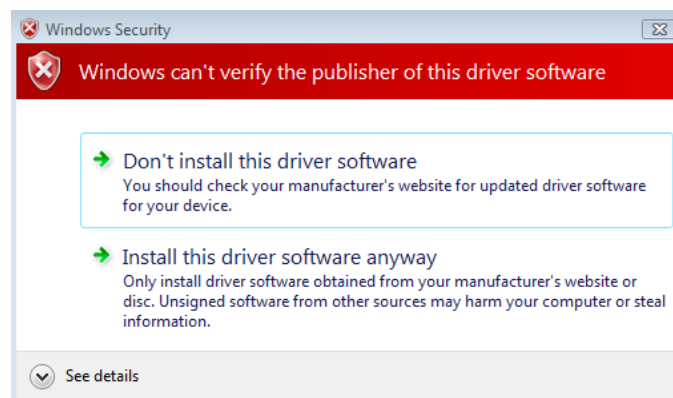

Figure 25 - Windows Security window
6. Click on “Install Wireless Module Driver” button if KMS-300 USB WIRELESS ADAPTER will be used. Follow the on-screen instructions to install the driver. The Windows Security window, Figure 25, may open depending on the security settings the user has applied to Windows®. Click on “Install this driver software anyway”.
4. Start the Acquisition and Monitoring software by performing step 1.c in section 6.4.02.3 below. The Windows Security window, Figure 25, based on the security setting the user has applied to Windows®. Click on “Install this driver software anyway”, see page 10